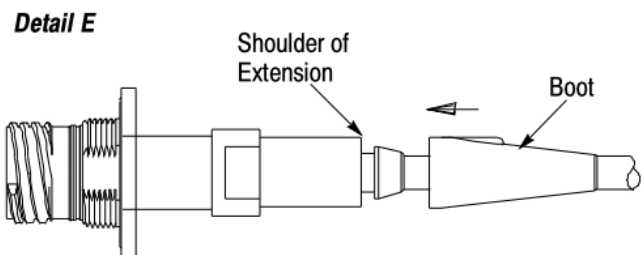

Figure 13
16. Slide the cable seal over the cable until it is approximately 10 mm from the washer. See Figure 13, Detail A.
17. Apply the O-ring grease to the front and back and to the outside diameter of the cable seal. Also, apply the grease around the cable jacket between the cable seal and the washer. See Figure 13, Detail B.
18. Apply several drops of the threadlocker to the threads of the housings. See Figure 13, Detail B.
19. Apply a *thin film* of the O-ring grease to the inside edge of the extension (this is necessary to prevent damage to the O-ring of the housing). See Figure 13, Detail C.
22. Apply the instant adhesive completely around the cone of the extension. See Figure 13, Detail D.
23. Slide the boot over the cone of the extension until it is tight against the shoulder of the extension. See Figure 13, Detail E. Remove any excess adhesive.